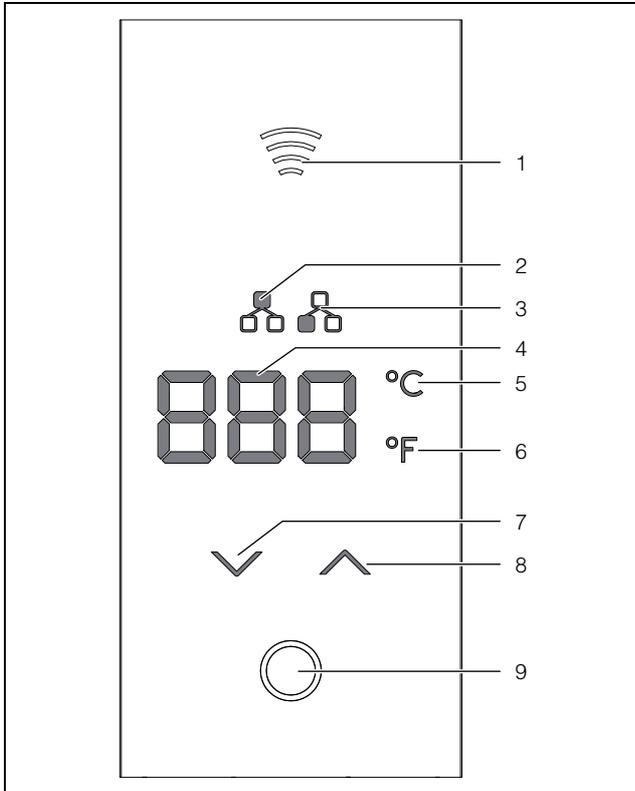

Fig. 51: Display
The display has a three-digit, 7-segment display (fig. 51, item 4). After switching on the power supply, the internal temperature appears here after a short time (approx. 10 seconds) and will be permanently displayed as long as there are no error or system messages. If such messages do occur, they will alternate with the temperature display.